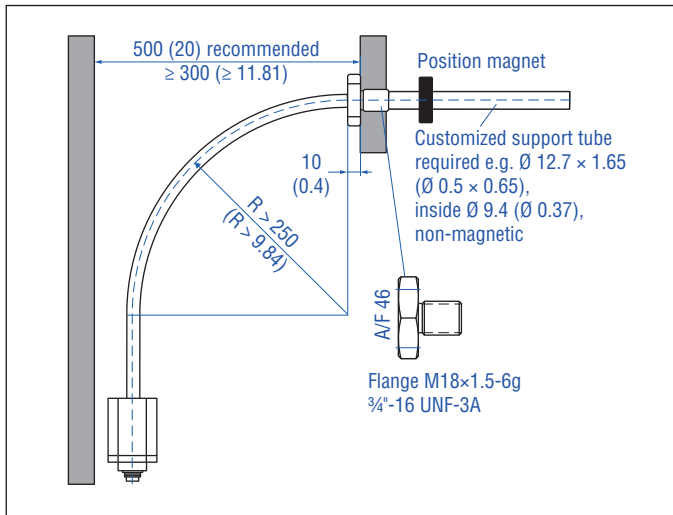

Fig. 20: Clearances for installation and handling
3. Note the minimum distance to a spatial limitation of 300 mm (11.81 in.), when mounting/dismounting the sensor. The recommended distance is 500 mm (20 in.) (Fig. 20).